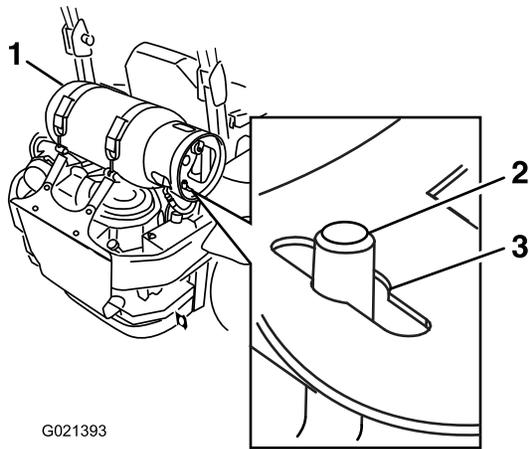

Figure 8
11. Aligned the central hole on the mounting pin that protrudes from the trimmer, as illustrated in Figure 8.